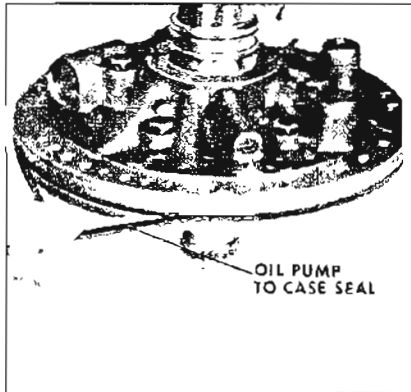

Figure 5-205
3. Install new oil pump to case seal. See Figure 5-205.